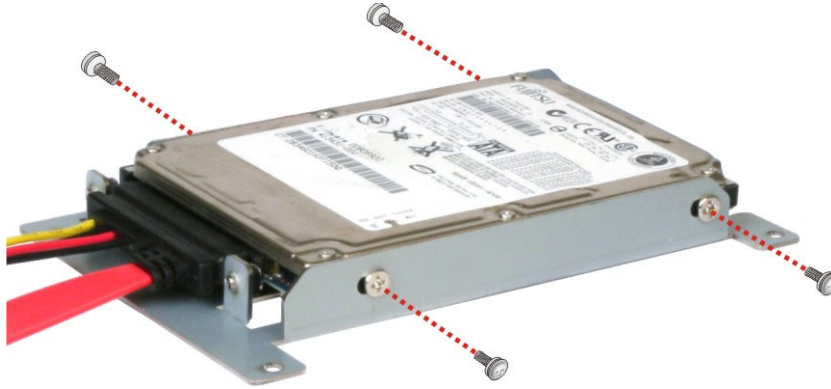

Figure 3-3: HDD Retention Screws
Step 4: Secure the hard drive to the bracket. Secure the hard drive to the bracket with four retention screws (Figure 3-3).